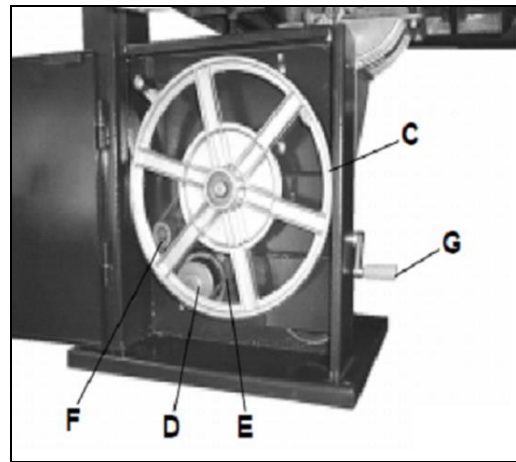

Fig 28
The lower bandwheel (C, Fig 28) has two Poly-V pulleys, the motor has a Twin-Poly-V pulley (D).